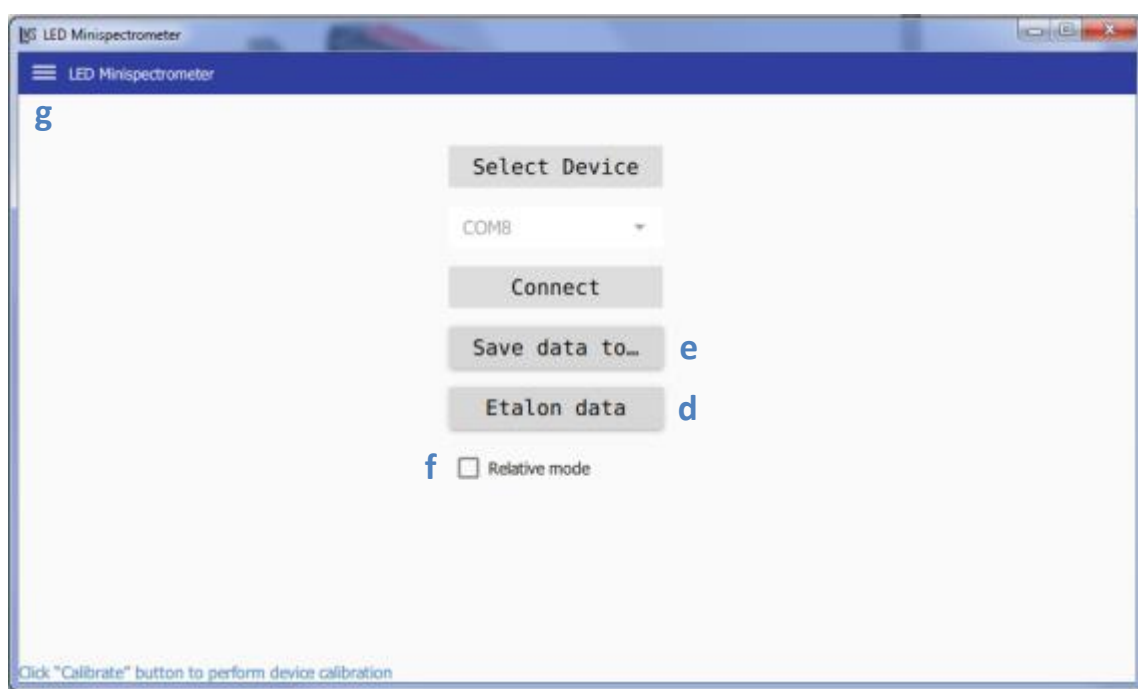

Fig.2. Window with program settings – download of etalon calibration data file.
- 3.4 When the program is run for the first time – “Etalon data” button will be displayed (fig.2, d). By clicking “Etalon data” button download the etalon calibration data file – “calibrator” file (provided with the device on the USB flash drive). This file is to be downloaded just once, at next program running “Etalon data” button won’t be displayed.
- 3.5 For choosing directory of measurement data storage click “Save data to...” button (fig.2, e).
- 3.6 Absolute measurement mode is set by default. If needed, relative measurement mode can be chosen by checking the checkbox “Relative mode” (fig.2, f).
- Click Menu button on the left top corner of the program window (fig.2, g), you will see the following menu options: